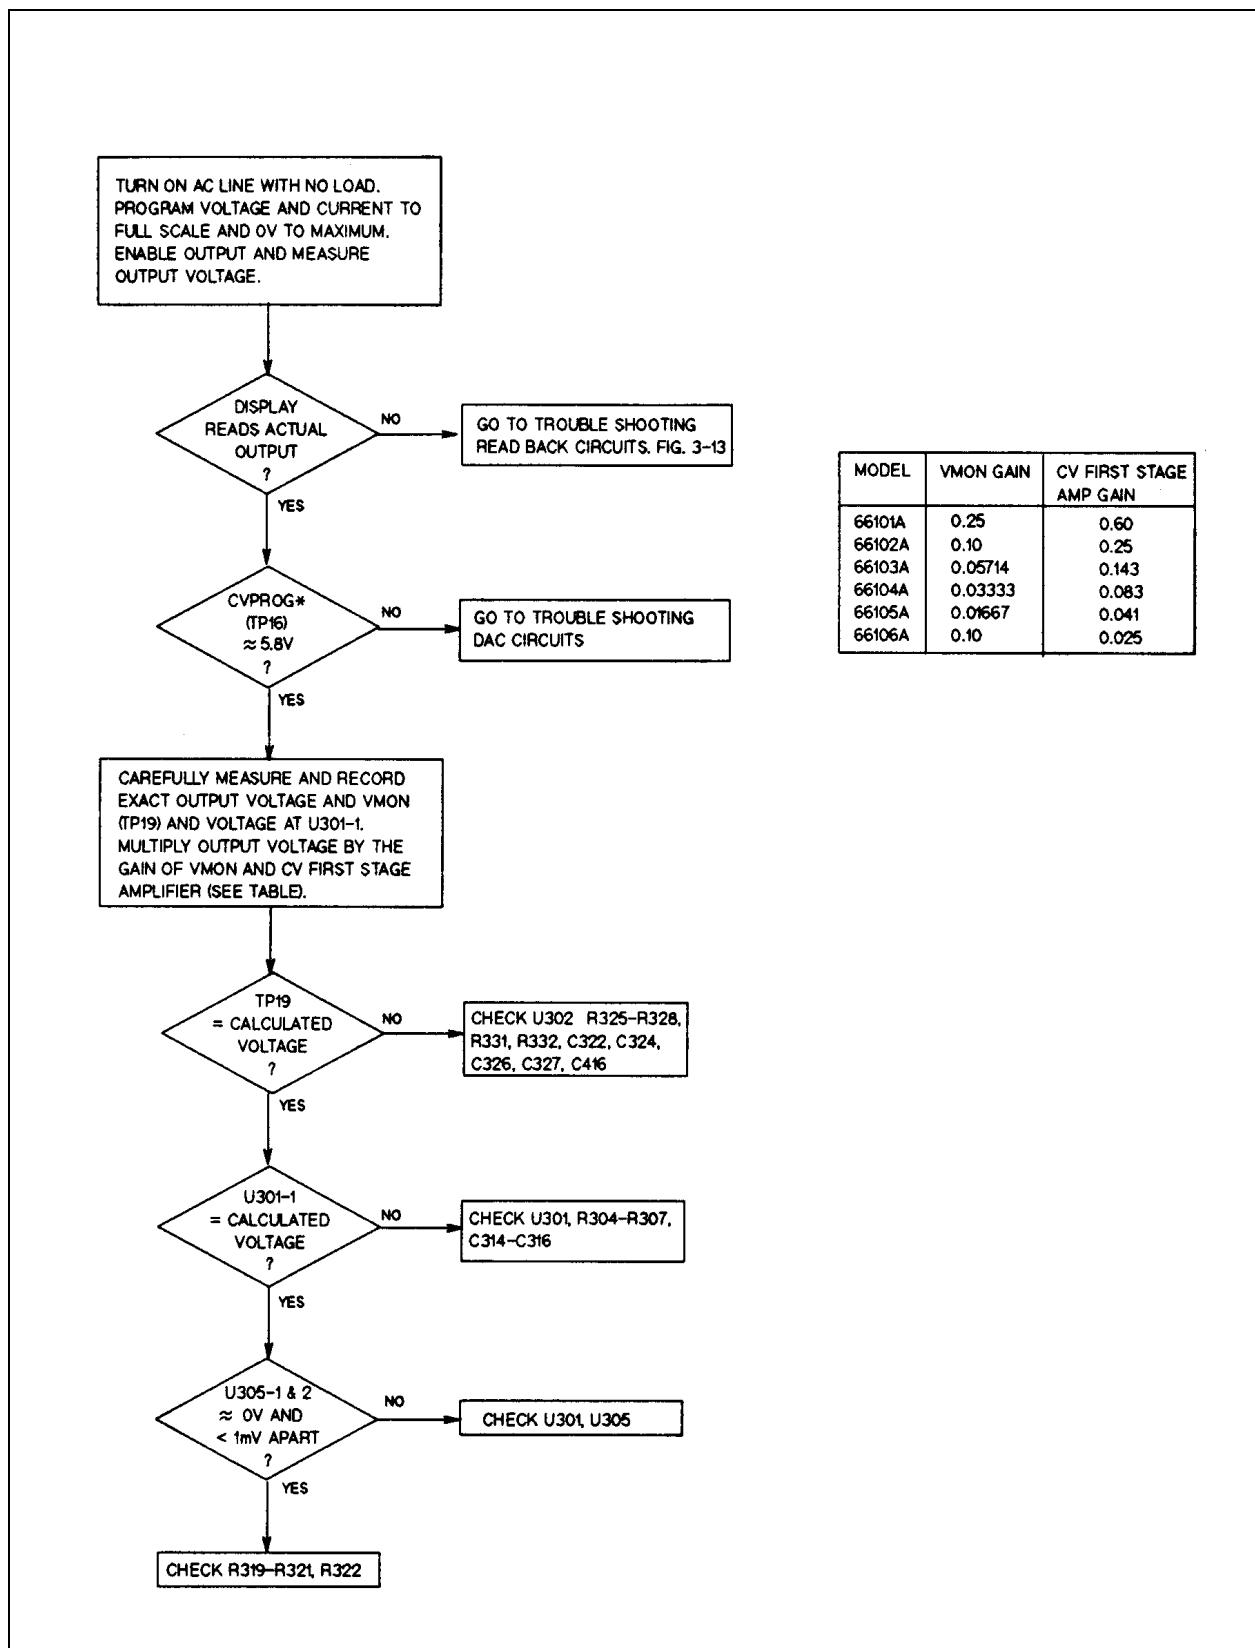

Figure 3-8. Troubleshooting CV Accuracy
- Figure 3-8 - Troubleshooting CV Accuracy